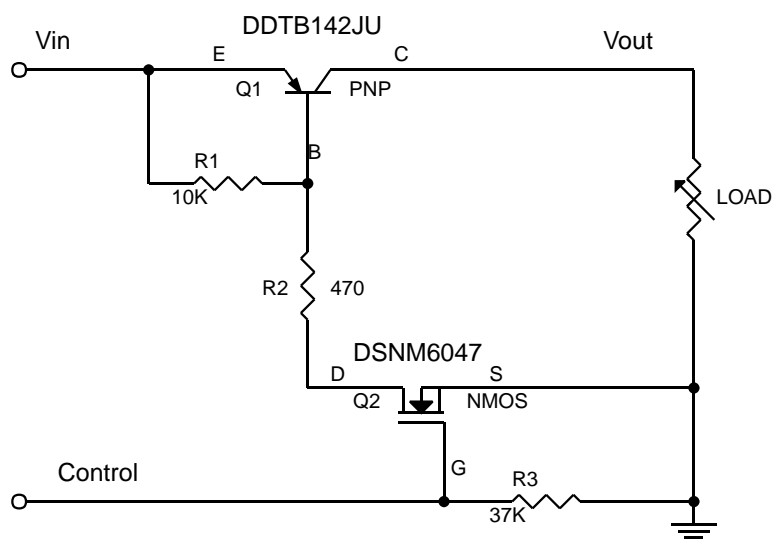
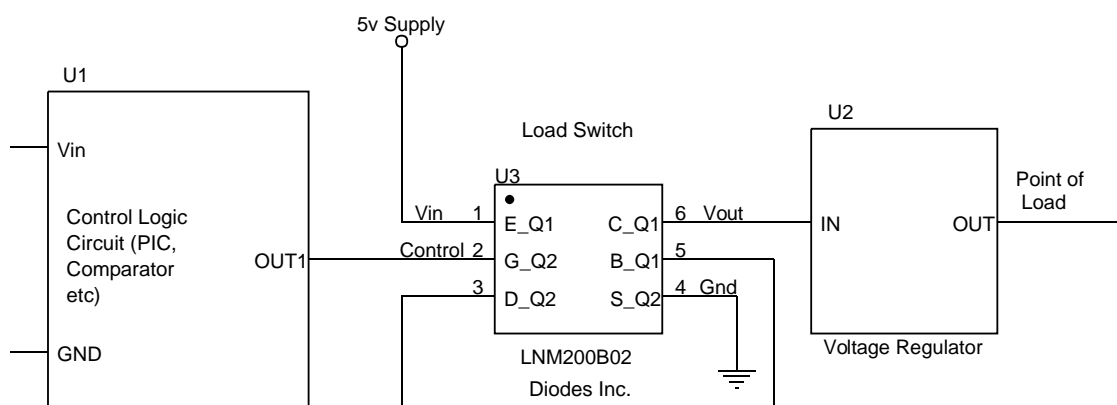

Fig. 19 Circuit Diagram
Fig. 20
- PNP Transistor (DDTB142JU) and N-MOSFET (DSNM6047) with gate pull-down resistor integrated as one in LMN200B02 can be used as a discrete entity for general purpose applications or as an integrated circuit to function as a Load Switch. When it is used as the latter as shown in Fig 19, various input voltage sources can be used as long as it does not exceed the maximum ratings of the device. These devices are designed to deliver continuous output load current up to a maximum of 200 mA. The MOSFET Switch draws no current, hence loading of control circuit is prevented. Care must be taken for higher levels of dissipation while designing for higher load conditions. These devices provide high power and also consume less space. The product mainly helps in optimizing power usage, thereby conserving battery life in a controlled load system like portable battery powered applications. (Please see Fig. 20 for one example of a typical application circuit used in conjunction with voltage regulator as a part of a power management system)